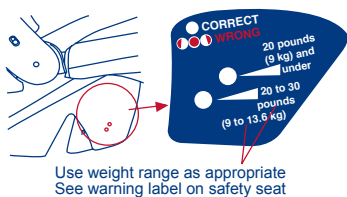

Fig. 46-2
For your child's safety, the Safety Seat must be properly reclined when installed in the vehicle. The Safety Seat includes a Seat Angle Indicator on the lower portion of the shell on the child's left side, to assist in achieving the proper angle of recline for the Safety Seat. (Fig. 46-2)
2. **Safety Seat without Base:** Check that the Safety Seat is level side to side on the vehicle seat. Check the level indicator as shown in Fig. 46-2.